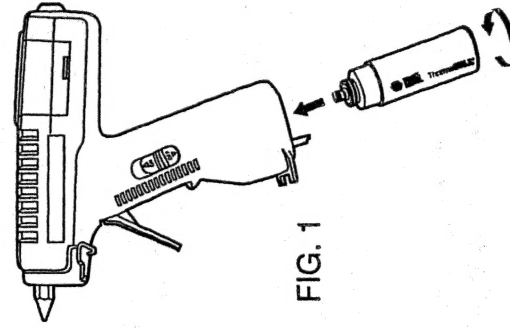

FIG. 1
2. Screw the Thermacell® cartridge clockwise into the handle of the glue gun as shown in Figure 1. The cartridge should be hand tight. **DO NOT OVERTIGHTEN.**